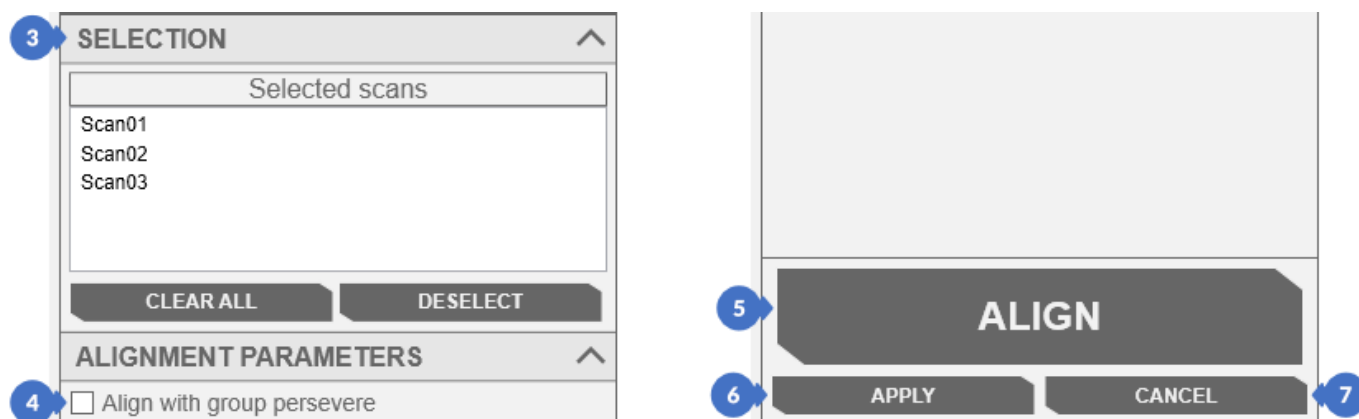

Figure 377. Fitting with markers panel
The *marker alignment* panel contains a list of selected scans (selected scans in the SELECTION (3) category) for further matching process (Figure 377).